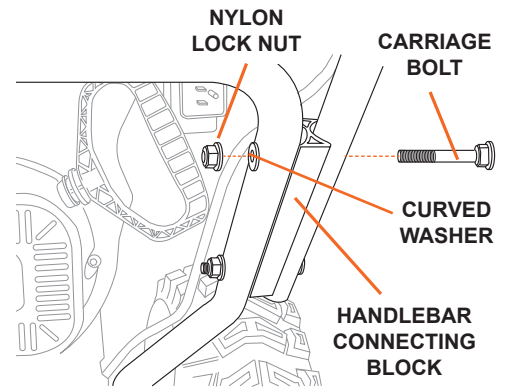

Figure 1
1. Carriage bolts, curved washers and nylon lock nuts have been provided in a hardware package. Align the two holes in the handlebar connector block with the two holes in the upper and lower handlebars assemblies on the snow blower. Push carriage bolts through from the outside and secure with a curved washer and nylon lock nut on the interior in two places on both sides of the snow blower. Tighten securely (see Figure 1).